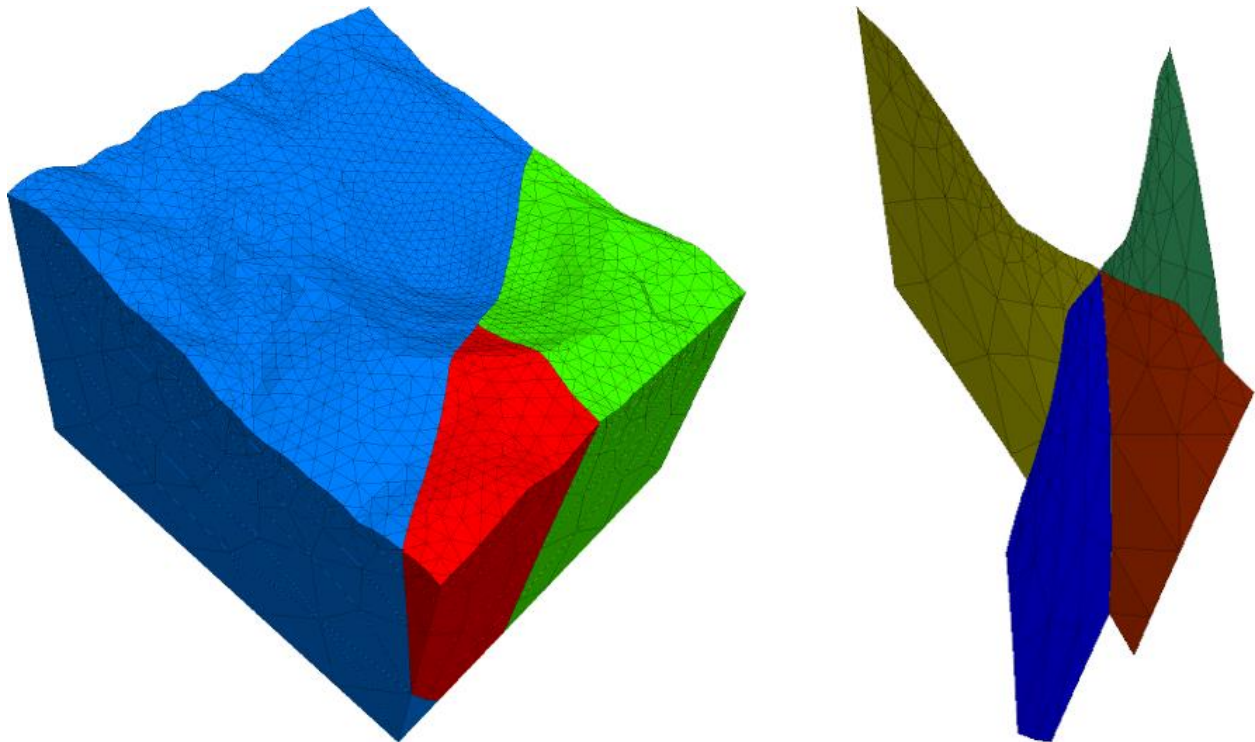

Figure 169: Griddle generated 3DEC block model.
4. Call GVOL3ddat into **3DEC** (Figure 169). Your rigid block model should be similar to that shown below left. The joint sets are shown below right. Note, **3DEC** output consists of a data file with **3DEC POLYHEDRON** commands which create rigid blocks in **3DEC** (these are not deformable zones). If you wish to make the blocks deformable in **3DEC** you need to use the **3DEC GENERATE** command to populate the rigid blocks with zones.